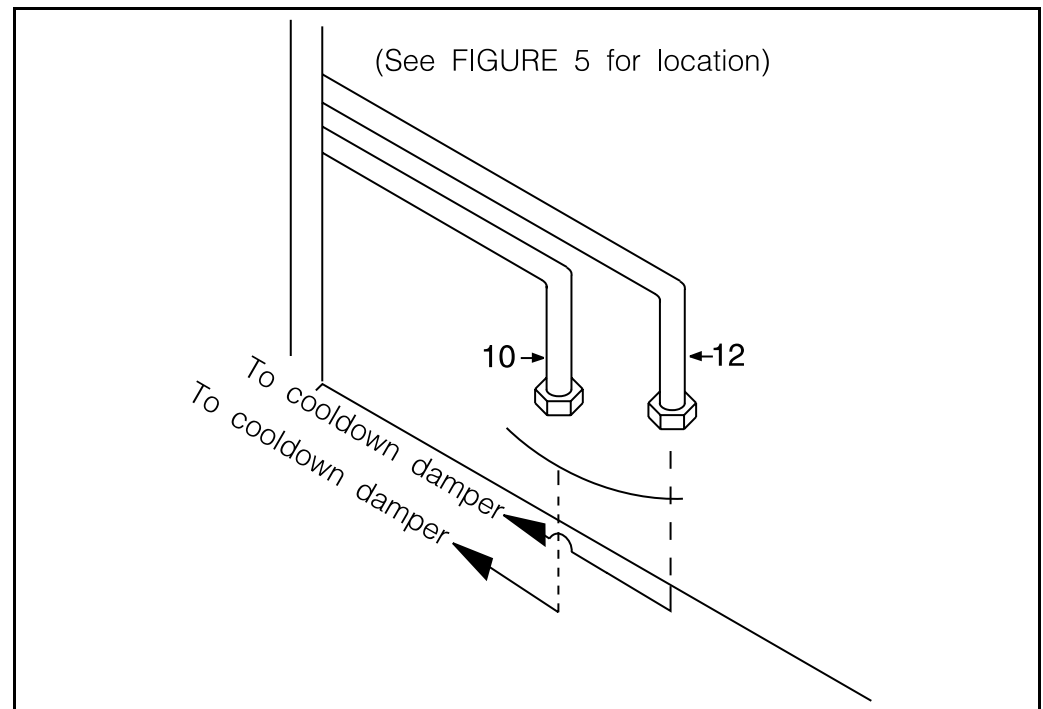

FIGURE 13 (MSIN0108AE)
- b.** For hot oil dryers, make the pneumatic connections (located at Pneumatic Connections) as shown in FIGURE 13.